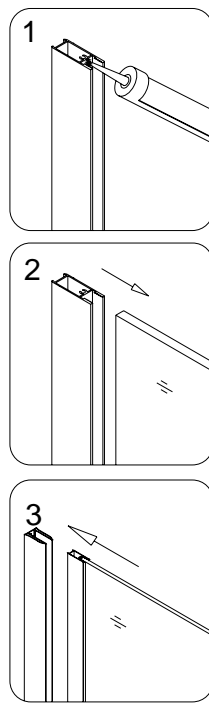
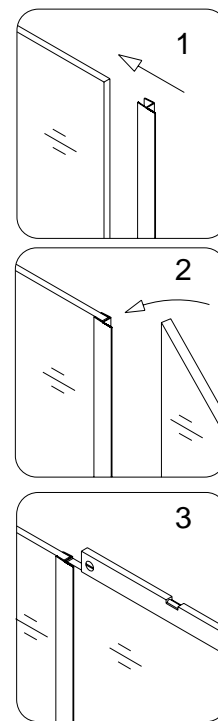

Fig 15B
Fig 16
➤ If the thickness of the glass is 3/8" (10mm), apply silicone sealant onto the groove of the **Glass profile (4)**. Push the stationary glass into the glass profile. See Fig 15B for details. (**NOTE: If the stationary glass and the glass profile have been assembled, you can skip this step**)
16. Push the **Glass profile (4)** into the **Wall profile (5)** and push the **Anti-water strip (31)** onto the **Stationary glass (22)** (Fig 15B/3 and Fig 16/1). Close the glass door against the **Anti-water strip (31)** (Fig 16/2) to find the position of the **Wall profile (5)**. (You can pull the **Glass profile** from the **Wall profile** to adjust width). Mark the position of the **Wall profile** on the wall.